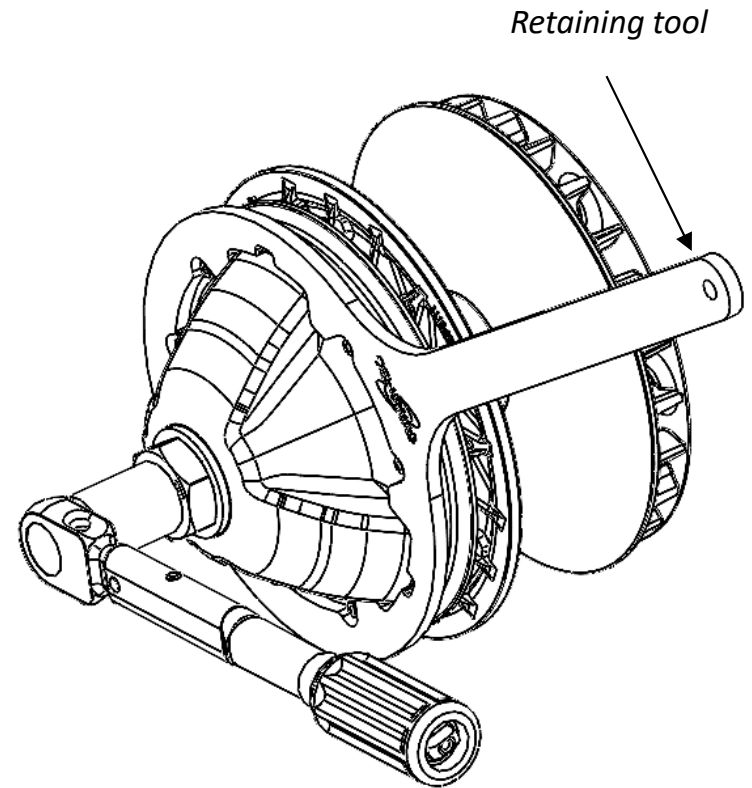

Figure 8
- *To tighten the drive pulley, use the retaining tool (see figure 8) to lock the rotation.*